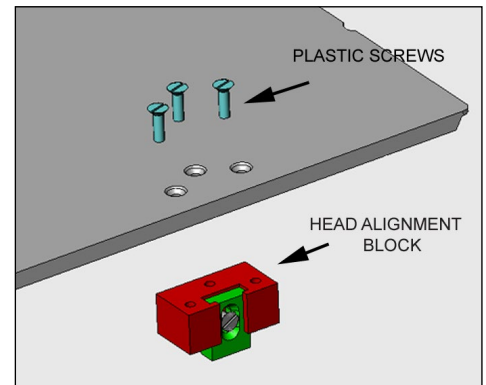

Fig. 22
1. Install Head Alignment Block on the CT Overlay (IF NOT ALREADY INSTALLED) using 3 Plastic  $\frac{3}{8}$ -12 x 1.25" Flat Head Screws provided. You can use a Quarter or a Flat Head Screwdriver to loosen or tighten screws (Fig. 22).